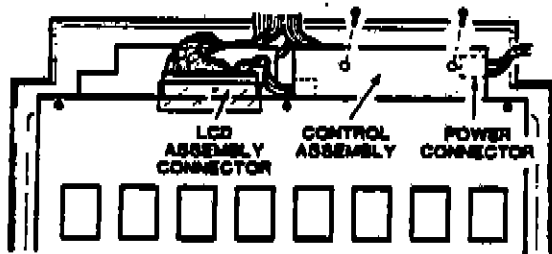

Figure 3-20. Control Assembly Screws
Refer to Figures 3-20 and 3-21 for the following steps.
2. Remove the two screws securing the contrast and brightness control assembly to the display, as shown in Figure 3-20.